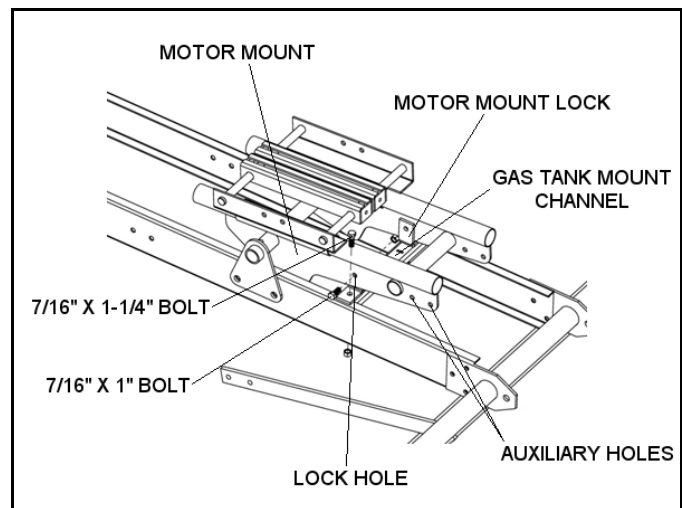

Figure 3.41
- Place gas tank mount channel within frame and bolt to motor mount locks with two 7/16" x 1-1/4" bolts and locknuts. See Figure 3.41.